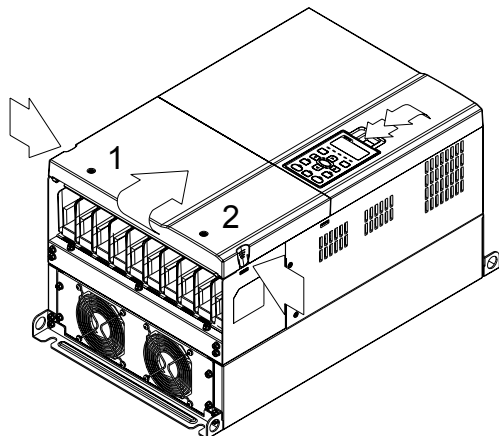

Figure 1
- (Figure 1) Loosen screw 1 and screw 2, press the on the right and the left to remove the cover, follow the direction the arrows indicate. Press on top of digital keypad KPC-CE01 to properly remove the keypad. Screw torque: 10~12kg-cm (8.6~10.4in-lbf).